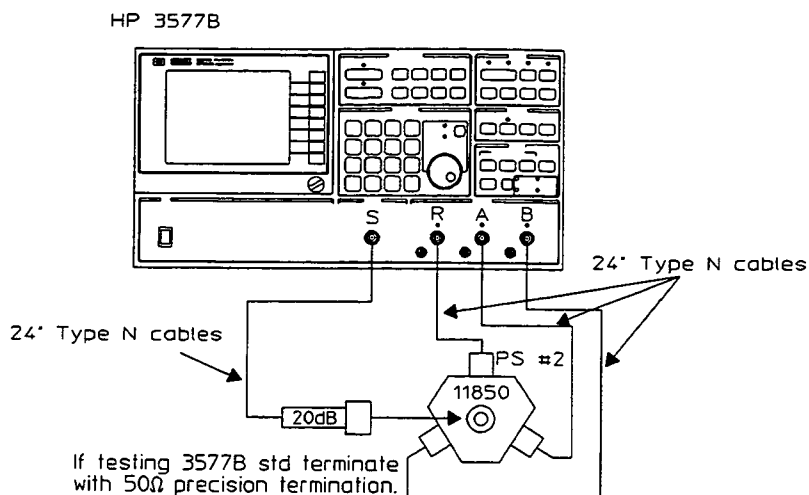

Figure 3-7. Calibration of Transmission Loss
g. Disconnect the 24-inch cable from receiver R and connect it to the 20 dB attenuator. Connect the equipment as shown in figure 3-7.